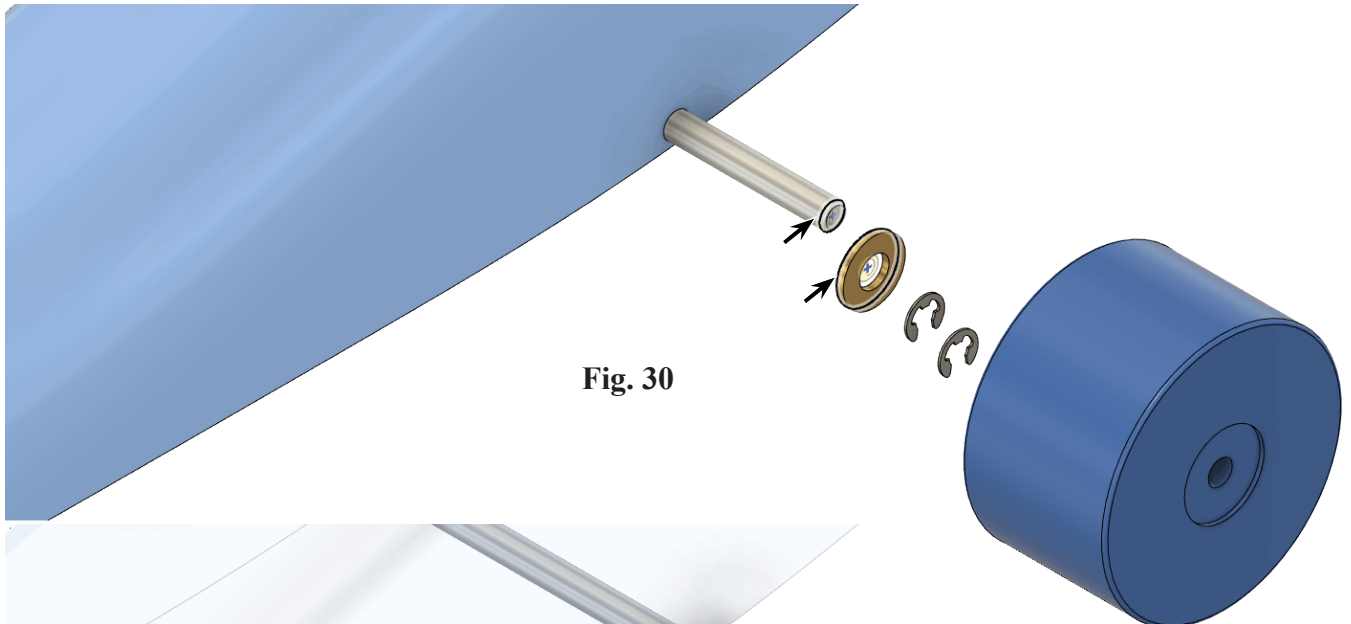

Fig. 30
Step 6. Click **inside cylindrical edge of Washer** for first component selection and **large cylindrical edge of Axle** for second component selection, **Fig. 30**.